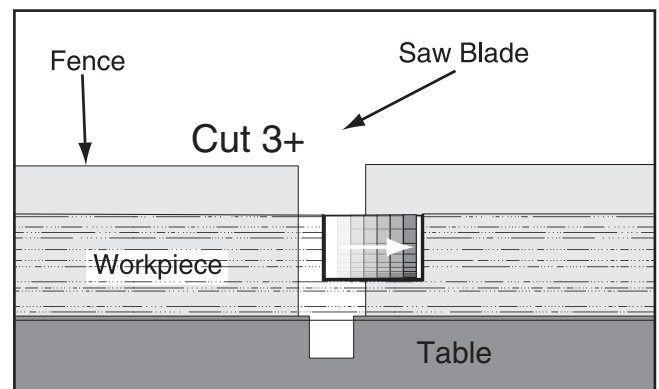

Figure 62. Additional single-blade dado cuts.
7. Make additional cuts (see Figure 62) in center of dado to clear out necessary material. Dado is complete when channel is completely cleared out.